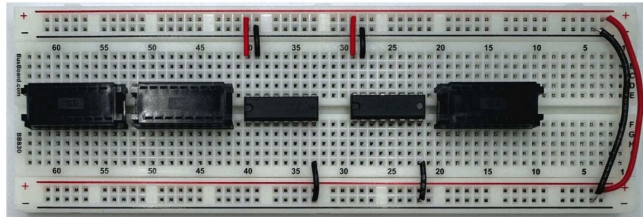
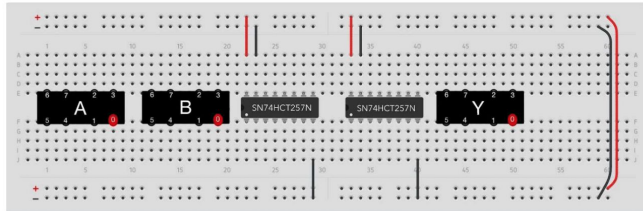

Figure 7: Image of a real breadboard with connectors and chips inserted in place.
Figure 8: Image of a simulated breadboard that is equivalent to Figure 7.
- Place the chips as shown in Figure 7.
- Place the three bus connectors as shown in Figure 7. Don't insert the ribbon cables and don't press together the two parts of the connector yet.
- Study Figure 8, which is a simulated version of Figure 7. The pins of the connectors are labeled with small numbers. The red 0 indicates the position of the least significant bit of the corresponding bus.